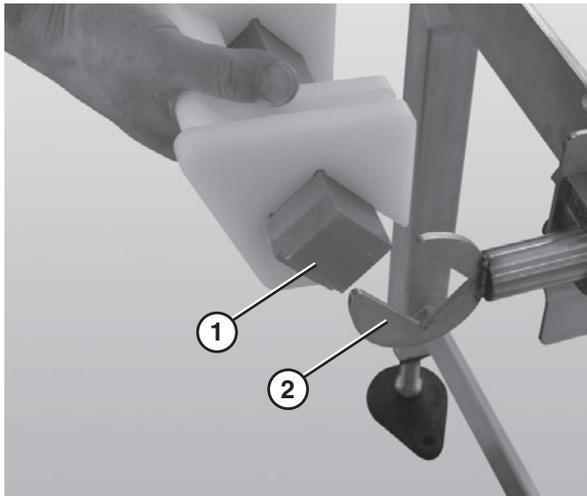

Figure 21
- Attach the nose bar transfer post (Figure 21, item 1) to the nose bar idler shaft hands (Figure 21, item 2).